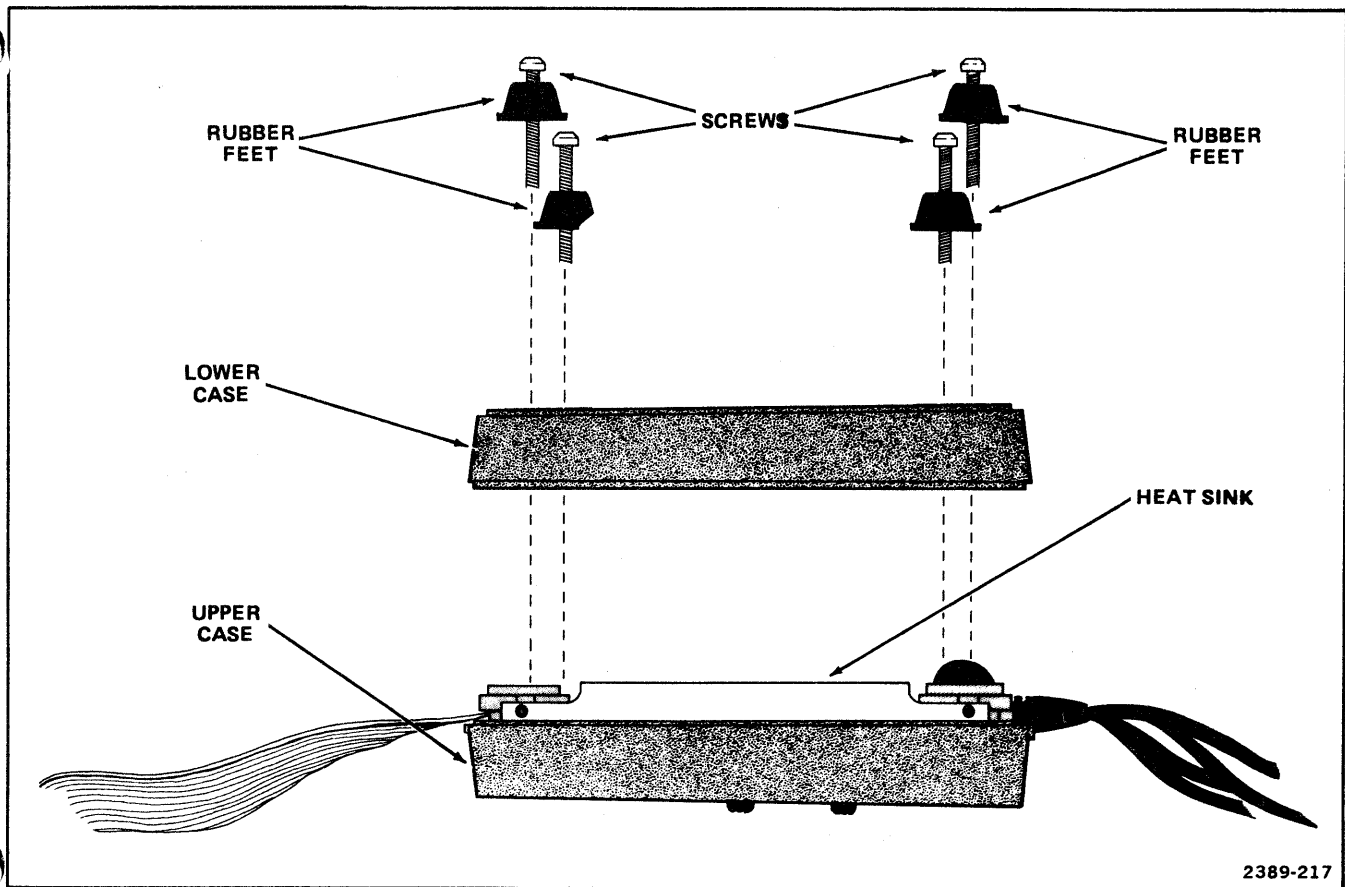

Figure Option 2-12. Disassembling the Current Loop Interface Adapter.
2. Remove the four screws and rubber feet from the lower half of the Current Loop Interface Adapter case and lift off the lower case-half (see Figure Option 2-12).